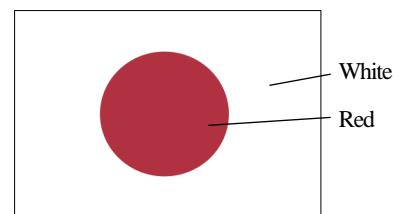

Fig. 4-3
- (6) Explain, with the aid of diagrams, the most efficient method and procedure for constructing a fair-faced concrete wall surface with a representation of the Japanese flag shown in Fig. 4-3, using either white cement A or red cement B. Note that in addition to the cement, the following materials may be used: water, white fine aggregate, red fine aggregate, white coarse aggregate, red coarse aggregate, water absorbent sheet, setting retarder, and plywood formwork, but any equipment may be used.